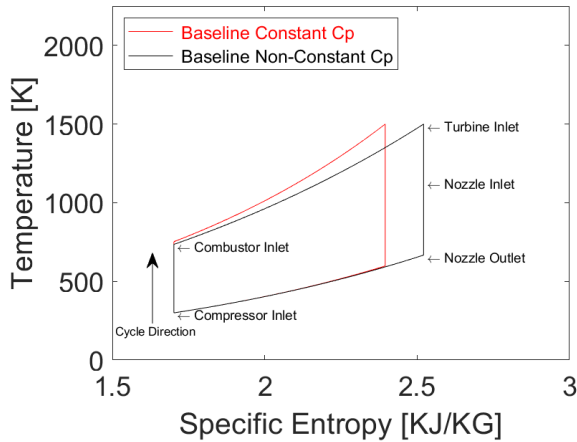

Figure 9 - Temperature vs. specific entropy of a cycle assuming constant specific heat, C_p , and non-constant specific heat
- Figures 9 and 10 illustrate the differences involved within the baseline cycle explained above with constant and non-constant specific heat. From the figures, you can see that large variation is seen in the cycles overall shape as the error of specific enthalpy is inserted into the calculations with large temperature changes.